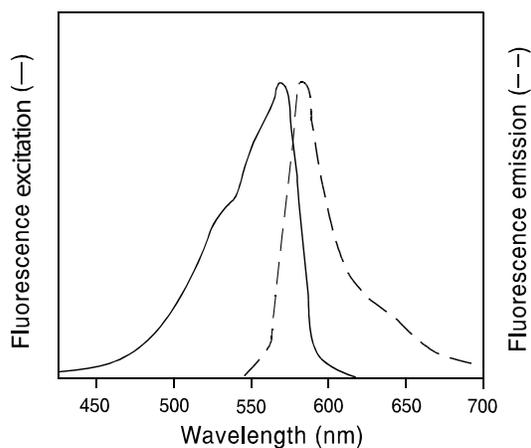

Figure 1. Normalized excitation and emission spectra of resorufin, the product of the Amplex® Red reaction.
In the presence of peroxidase, the Amplex® Red reagent reacts with H₂O₂ in a 1:1 stoichiometry to produce the red-fluorescent oxidation product, resorufin.¹ Resorufin has excitation and emission maxima of approximately 571 nm and 585 nm, respectively (Figure 1), and because the extinction coefficient is high (58,000 ± 5,000 cm⁻¹M⁻¹), you can perform the assay fluorometrically or spectrophotometrically. This reaction has been used to detect as little as 10 picomoles of H₂O₂ in a 100 µL volume (50 nM; Figure 2) or 1 × 10⁻⁵ U/mL of HRP (Figure 3).
- 2.8 Measure the fluorescence or absorbance.** Use a microplate reader equipped for excitation in the range of 530–560 nm and fluorescence emission detection at ~590 nm (see Figure 1), or for absorbance at ~560 nm.
- 3.5 Measure the fluorescence.** Use a fluorescence microplate reader equipped for excitation in the range of 530–560 nm and emission detection at ~590 nm, or absorbance at ~560 nm (see Figure 1).
- 4.8 Measure the fluorescence or absorbance.** Use a microplate reader equipped for excitation in the range of 530–560 nm and fluorescence emission detection at ~590 nm (see Figure 1), or for absorbance at ~560 nm.